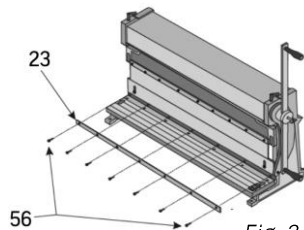

Fig. 2
1. Remove the screws (#56) from the upper cutting blade (#23) (Fig. 2).